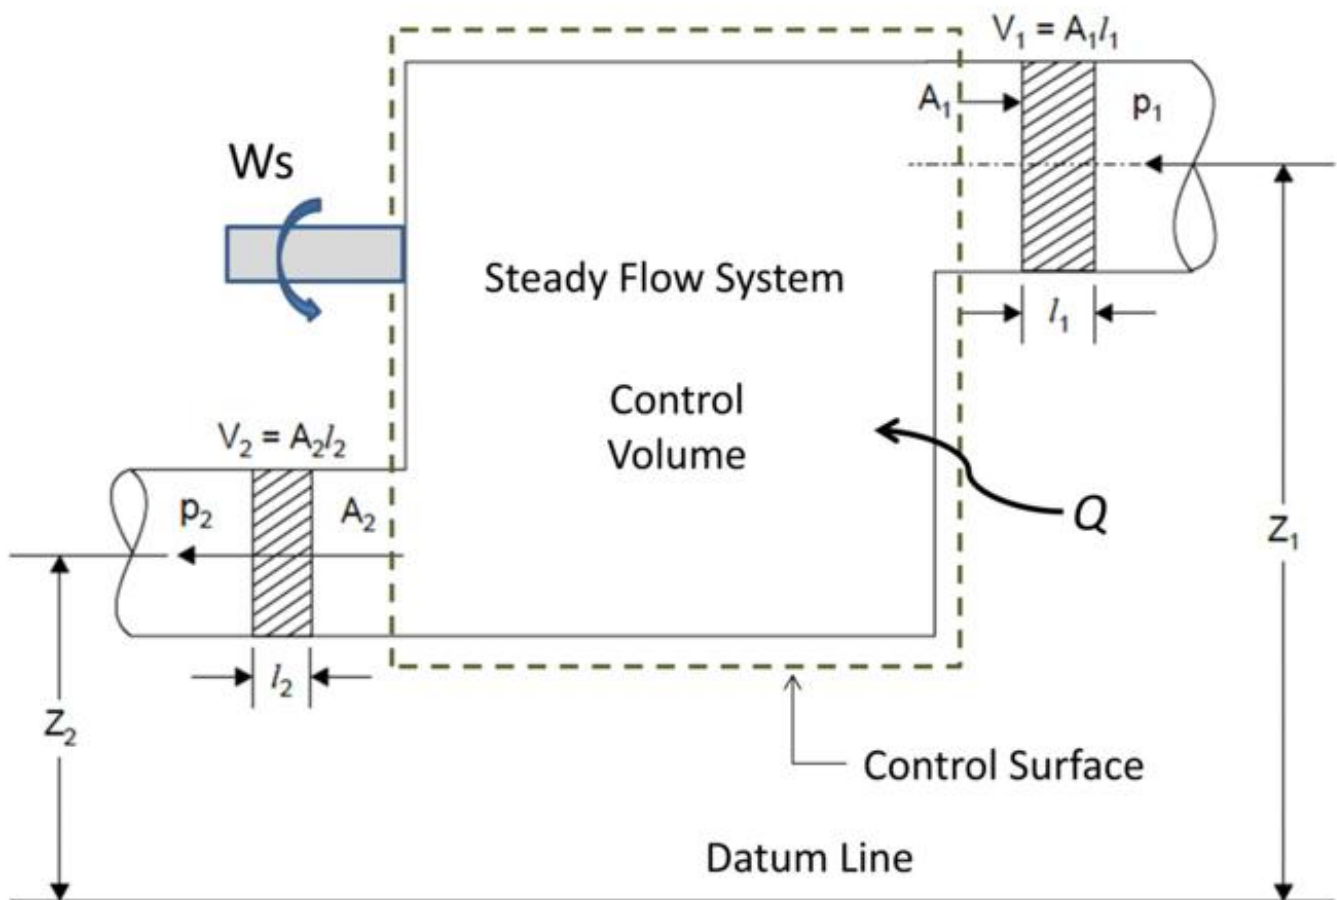

Fig. 2.4 Schematic flow process for an open system
- Consider a flow of fluid through an open system as shown in Fig. 2.4.
- Further during, the fluid flow between the two selected sections, heat (Q) and mechanical or shaft work (W_s) may also cross the control surface.